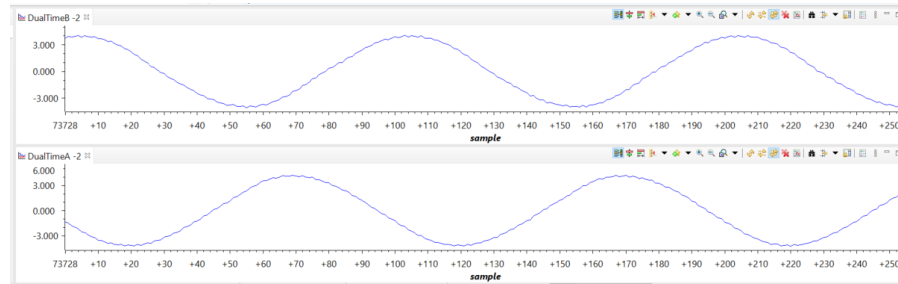

Figure 13 Phase B and C Current
- Change bufferMode to Graph_PH_C_VIEW by setting gGraphVars.bufferMode, and set gStepVars.stepResponse to “1” in Expression Window, this will graph phase B and C sampling current as shown in Figure 13.